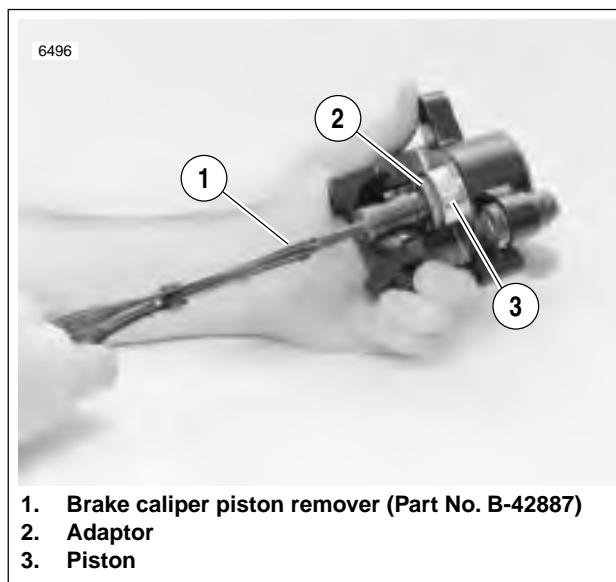

Figure 2-56. Removing Rear Brake Caliper Piston
3. See Figure 2-56. Remove piston (3) using BRAKE CALIPER PISTON REMOVER (1) (Part No. B-42887) with adaptor (2).